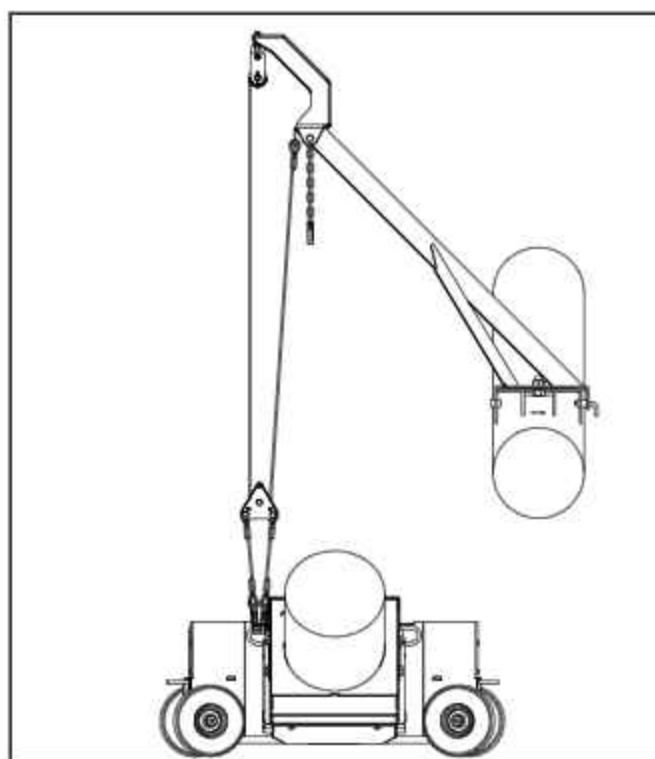
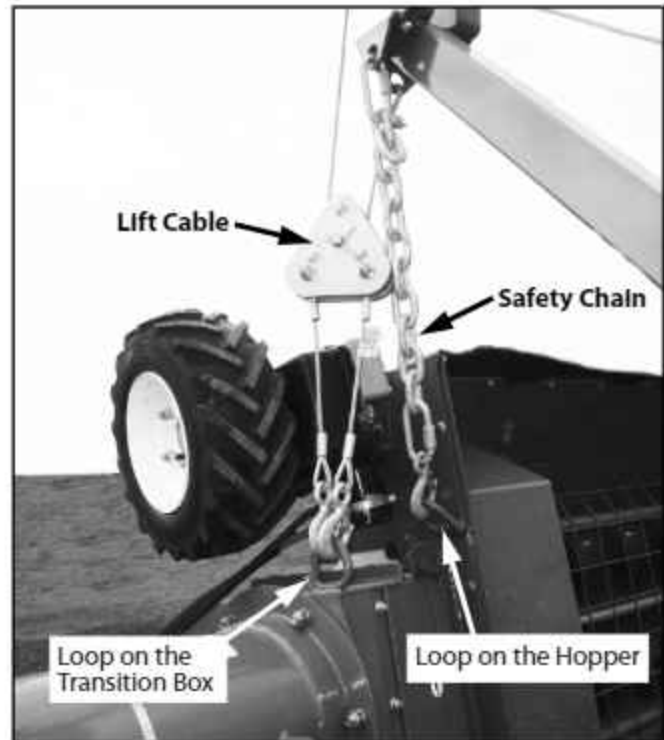
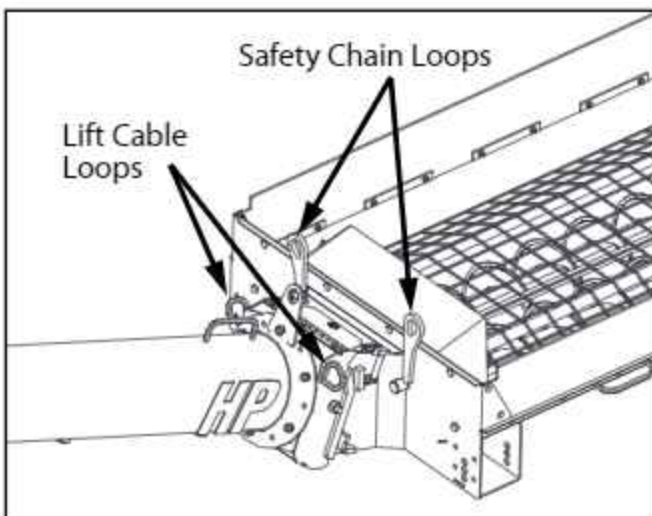

FIG. 4-9. Connection for Long Transport
FIG. 4-11. Long Distance Transport Position
FIG. 4-10. Hopper Lifting Loops
5. The swing auger on this unit transports on its side as shown in Fig. 4-11. To secure it in this position, follow the sequence detailed in Fig. 4-9.
- First attach the hooks onto the outside lifting lug on the transition. Fig. 4-9 shows an end view of the swing auger showing how the lift cables should attach.
the transport chain hook as shown in Fig. 4-10 and Fig. 4-11.